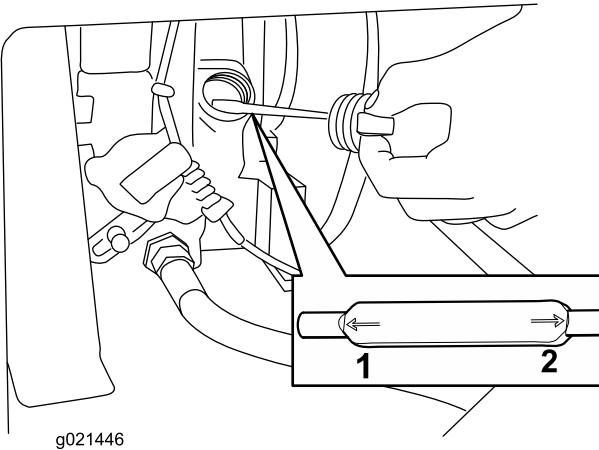

Figure 6
3. Clean around the dipstick (Figure 6) so that dirt cannot fall into the filler hole and damage the engine.
- 4. Unscrew the dipstick and wipe the end clean (Figure 6).
- 5. Screw the dipstick fully onto the filler tube (Figure 6).